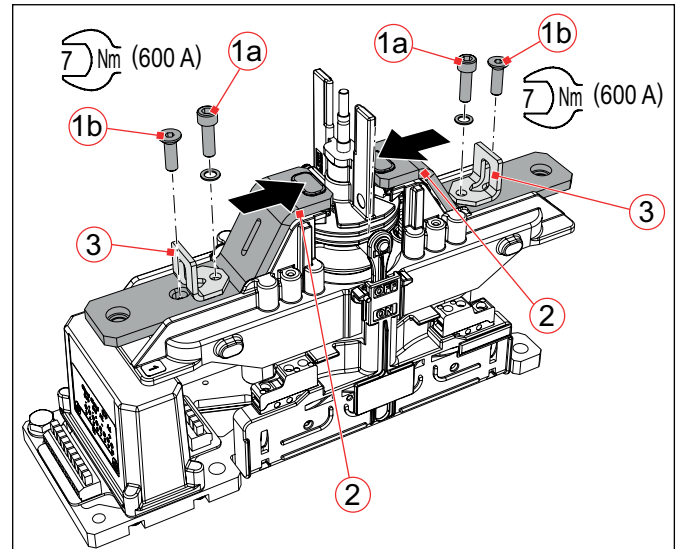

Fig. 38: 600 A NO/NC contactors with arc chambers – install the fixed contacts
- ▶ Place the new fixed contact (2) on the contact carrier surface.
- ▶ Push the fixed contact (2) towards the centre of the magnetic drive as far as it will go.
- ▶ For 600 A devices, place the bracket (3) on the fixed contact as shown in **Fig. 38** and screw on the bracket together with the fixed contact using the screw (1a) and the washer.
- ▶ To install the second fixed contact (2) repeat the steps above.